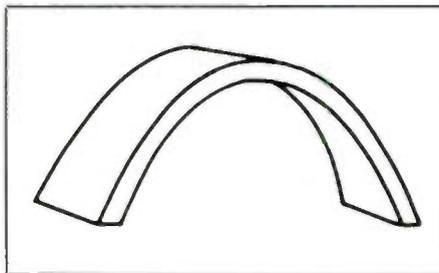

Figure 3.
10. The shape of a flat piece of metal has been changed as shown in Figure 3. In that condition the metal is